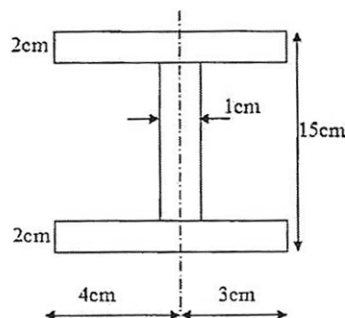

Fig. 4
- b) Locate the shear centre of the cross section shown in Fig. 4.